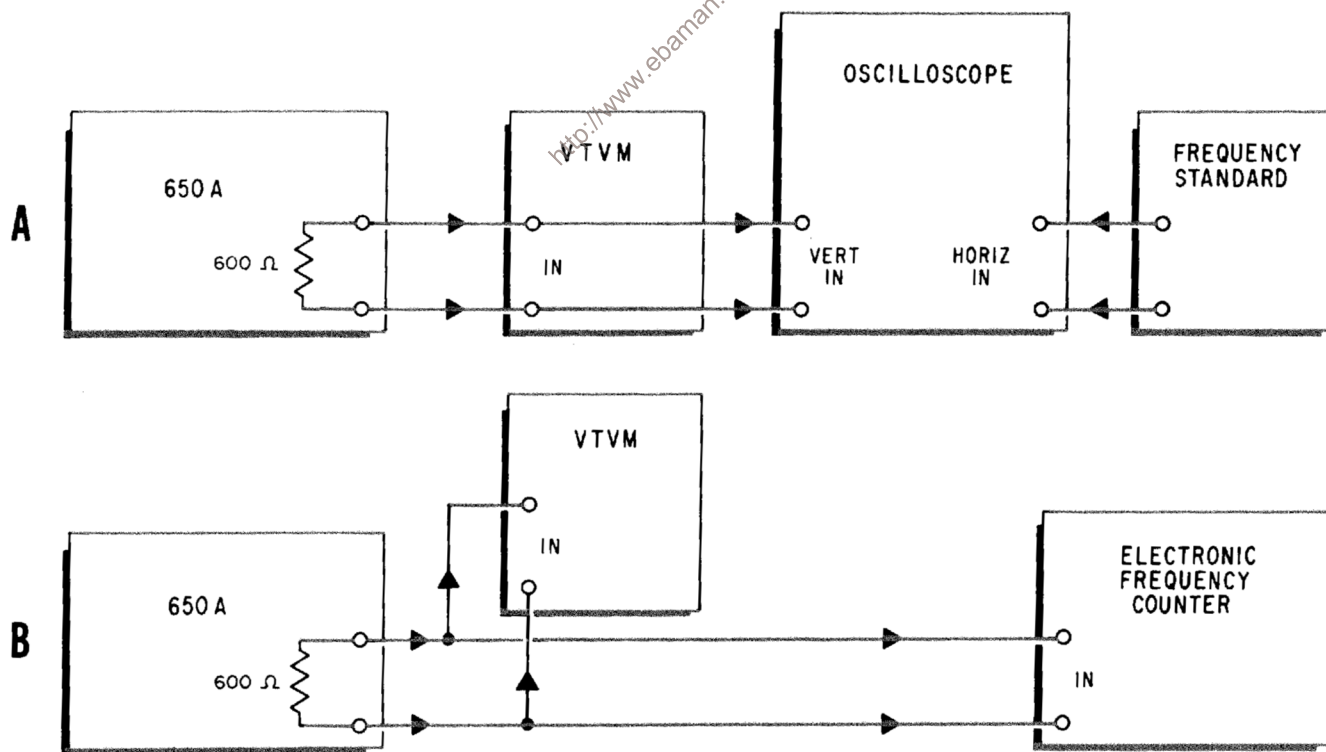

Figure 4-3. Calibration and Response Check for Low Frequency Oscillator
Suggested setups for low frequency oscillator calibration and response checks are given in Figure 4-3. Any high impedance ac voltmeter capable of accurate voltage measurement from 10 cps to 100 kc can be used.
A. Connect a 600 ohm resistive load and frequency measuring equipment to 650A output terminals. See Figure 4-3.
A. Connect voltmeter and frequency measuring equipment as shown in Figure 4-3.